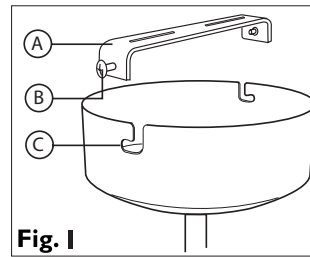

Fig. 1
Remove the fixing bracket (A) from the ceiling cover by removing the side screws (B). See Fig. 1.
Referring back to Figure 1, reattach the product to the fixing strap. This product has "L" shaped fixing slots to allow easy fixing to the ceiling strap. Locate the "L" slots (C) around the small screws (B) on the ceiling strap (A). Rotate the ceiling cover to attach the product to the strap. Tighten the screws to secure. Take care not to trap any wiring.